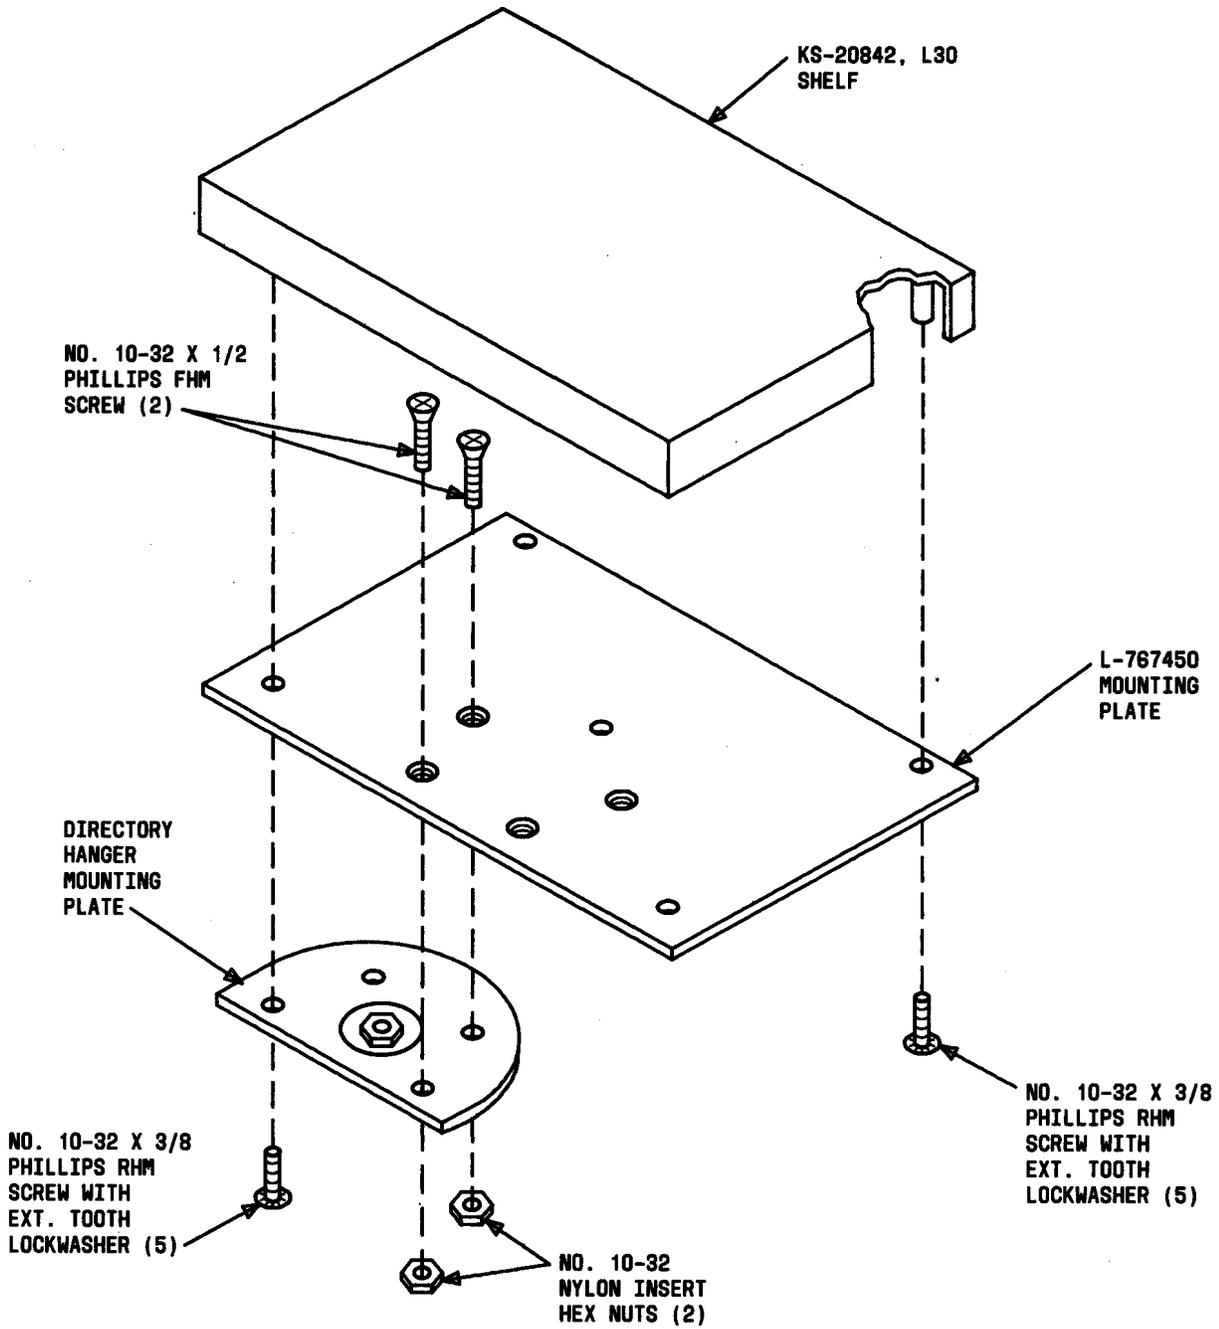

Fig. 24—Installing a KS-20030, List 10 Directory Hanger to a KS-20842, List 30 Shelf
3.21 Install a KS-20030, List 10 directory hanger on a KS-20842, List 30 shelf per Fig. 24.